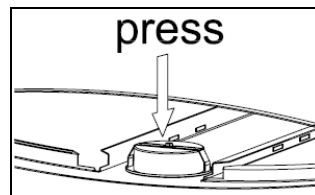

Fig. 12
## Light replacement (Fig. 12 & 12.1)
- Push out the light assembly from inside of the hood body (Fig. 12).